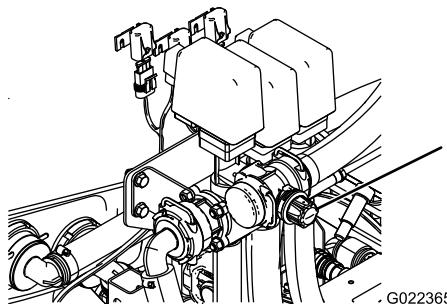

Figure 39
9. Adjust the agitation bypass valve (Figure 39) on the backside of the agitation valve until the pressure reading on the gauge is 7 bar (100 psi).